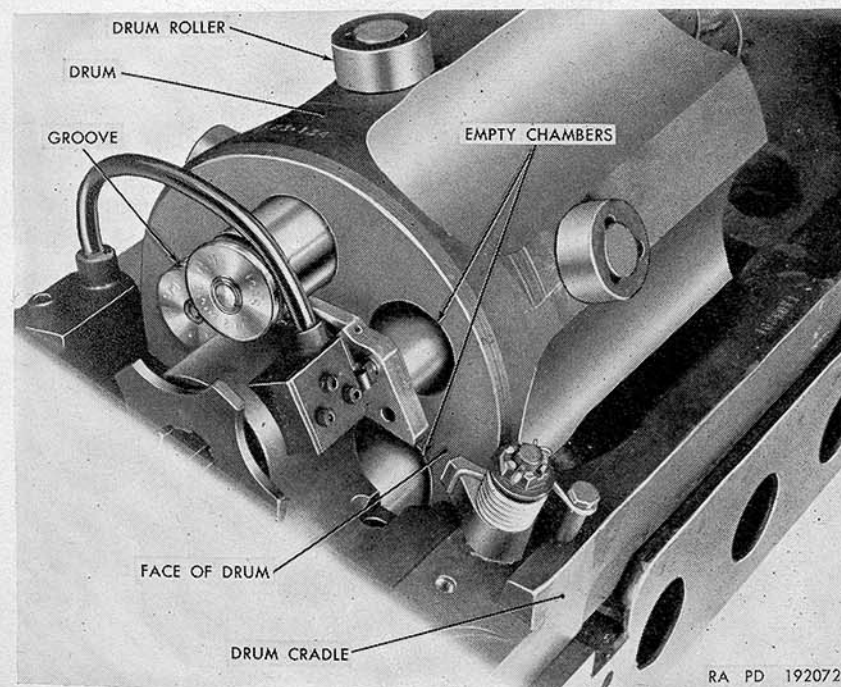
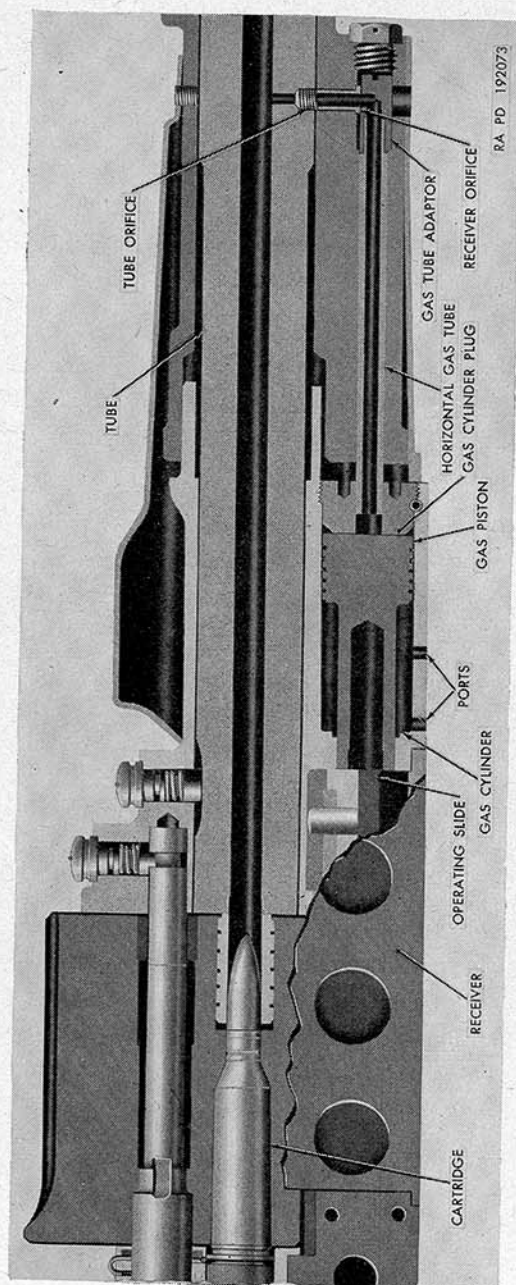
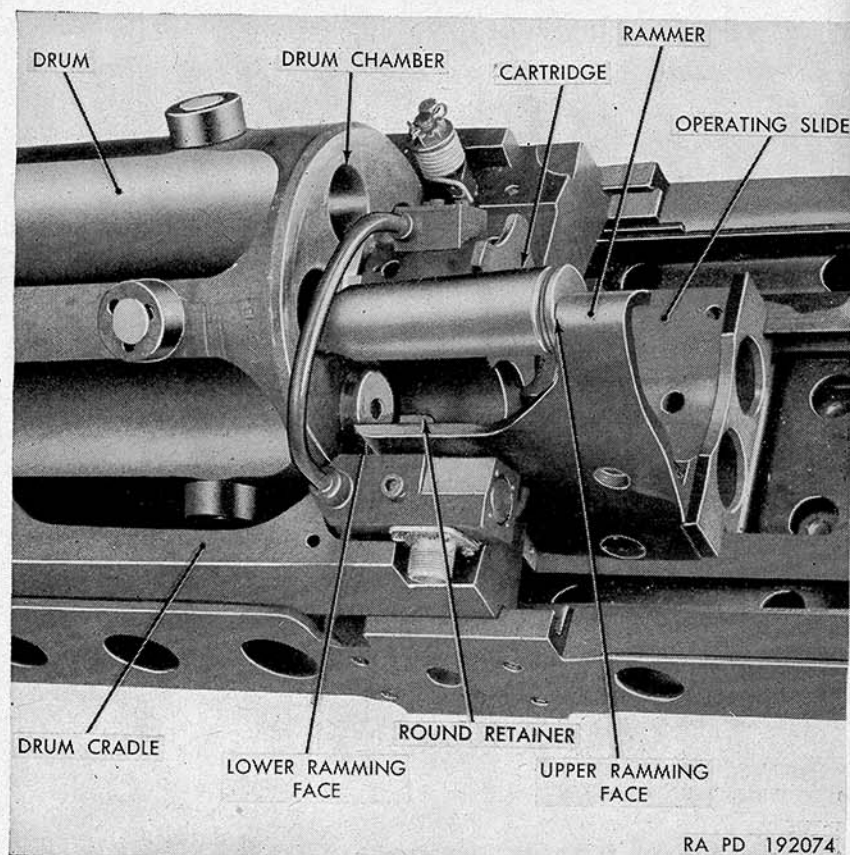

Figure 32. Empty chambers in drum.
Figure 33. Cutaway section of gun.
Figure 34. Ramming action of gun.
a. The drum of a gun (fig. 32) which is ready to fire has been charged the necessary three times (par. 19b(4) and (5)) and contains three rounds: one fully chambered, ready to fire, at the 6-o'clock position, in line with the tube bore; one round which is completely chambered ready to be indexed to the 6-o'clock position for firing; and one round rammed from its link in the feeder and partially entering the alined chamber of the drum. The two chambers before the 6-o'clock position are empty.
c. When the chambered round is in the 6-o'clock position, its forward end seats in the drum seal, while the primer, at the rear of the cartridge, is in contact with the firing pin (fig. 33). The firing pin and anvil assembly supports the case of the cartridge during firing. The chambered cartridge protrudes from the rear face of the drum a slight amount, making the groove (figs. 32 and 33) around the base of the round visible.
a. The propellant gas expands in the drum chamber and tube (fig. 33) as the projectile travels forward. After the projectile passes the tube orifice, a portion of the gas is bled into the tube orifice, then through the receiver orifice into the gas tube adapter. The gas tube adapter is drilled with two connecting right angle holes and joins the vertical receiver orifice to the horizontal gas tube.
b. The gas tube enters the gas cylinder of the cradle, which is a recoiling part, through the gas cylinder plug (fig. 33). Adequate clearance is provided between the hole in the gas cylinder plug and the gas tube to permit relative motion between the recoiling gas cylinder (in cradle) and stationary gas tube.
c. The propellant gases in the gas cylinder (fig. 33) force the gas piston rearward, and the operating slide is moved backward by the gas piston shaft.
e. Two ports (fig. 33), which extend into the gas cylinder, are machined into the bottom of the drum cradle. The rear port allows entrapped air to be expelled as the piston is forced rearward, and the forward port acts as an exhaust for the operating gases after the piston has completed its rearward motion.
a. The recoil forces developed upon firing act directly upon the drum cradle (fig. 32), forcing it rearward. The barrel assembly, drum assembly, and drum cradle group constitute the recoiling parts of the weapon.
a. The rotational motion of the drum assembly, necessary for indexing the rounds from station to station, is derived by the action between the drum rollers (fig. 32) and the cam path of the operating slide (fig. 9).
a. Ramming is accomplished in two stages by means of a rammer (fig. 34) which is attached to the operating slide.
b. The first stage occurs upon firing. The operating slide is driven rearward, and the drum's indexing positions an empty drum chamber in the path of upper ramming face. As the slide returns to battery, the upper ramming face contacts the base of the positioned cartridge in the feeder, pushing the cartridge from its link and partially seating the round in the alined drum chamber (fig. 34).
c. As the next round is fired, the drum indexes again and rotates the previously partially chambered round into the path of the lower ramming face (fig. 34). The lower ramming face drives this round into the chamber. At the same time the upper ramming face is extracting another round from its link.
d. As the round is being chambered by the lower rammer face, it passes over and depresses the spring-loaded round retainer (fig. 34), positioned on the rear of the drum cradle. After the round has passed over the round retainer, the round retainer snaps upward and bears against the base of the completely chambered round, holding it in position.
a. When the drum indexes again, upon firing of a round, the round that had been held by the round retainer (fig. 34), moves to the battery position (6-o'clock) where it is in alinement with the tube bore and the firing pin (fig. 33).